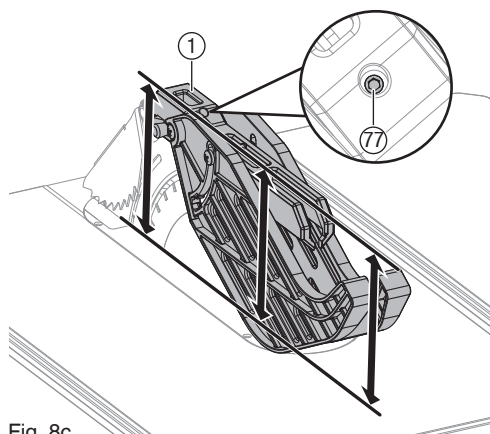

Fig. 8c
- If blade guard is not parallel to table when riving knife is in uppermost position (through cuts), adjust the set screw (77) as necessary. (Fig. 8c)